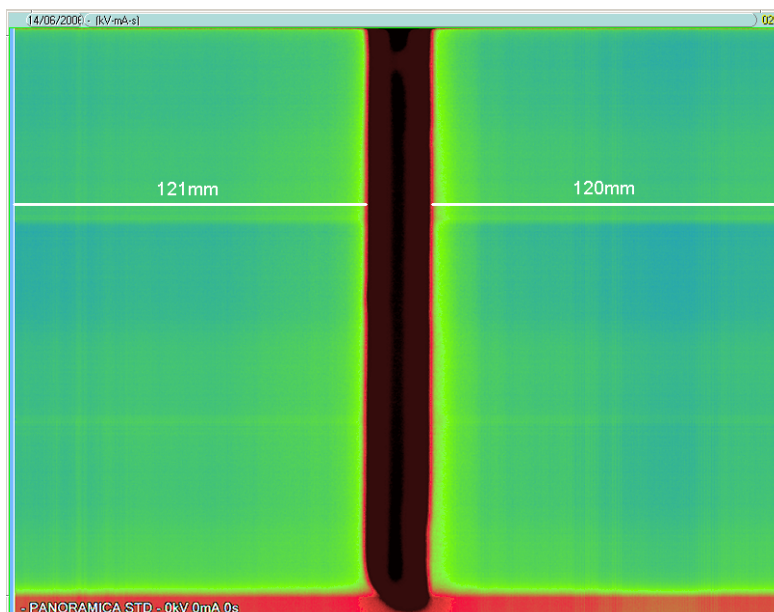

Figure 7-3
- 13.** On the image taken with QuickVision, using the instructions in paragraph 7.1.1, measure the distance between the borders of the image and the borders of the central vertical stripe (Figure 7-3); to take the measure easily, you can use the QuickVision pseudo color function.